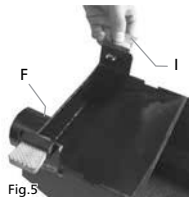

Fig.5
- On both sides of the suction connector, pull out the switching pins 'I' (Fig. 5).